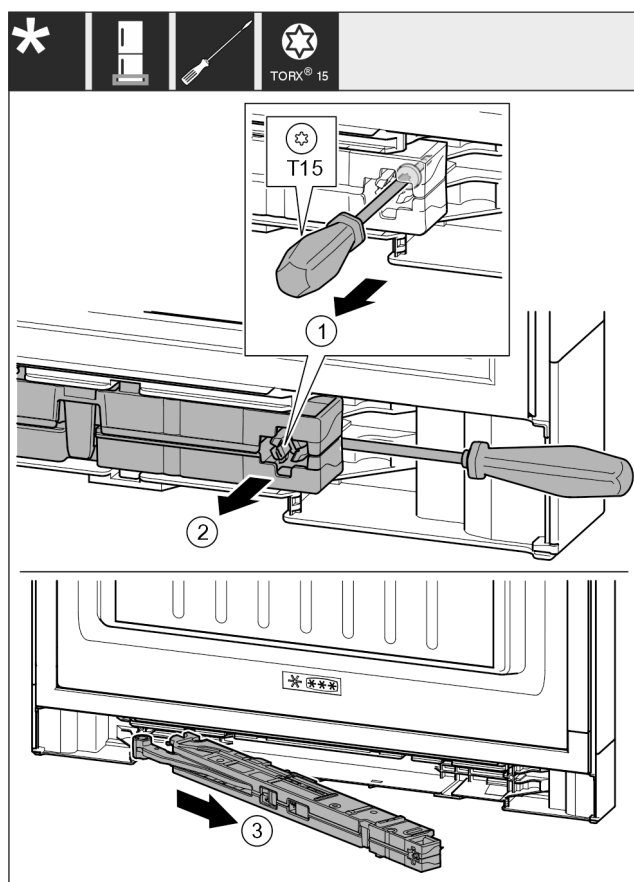

Fig. 18
- Loosen the screw Fig. 18 (1) on the closing damper unit with a 14 mm (9/16 in) screwdriver.
- Use the screwdriver to lift out the closing damper unit Fig. 18 (2) on the handle side.
- Pull out the closing damper unit Fig. 18 (3).